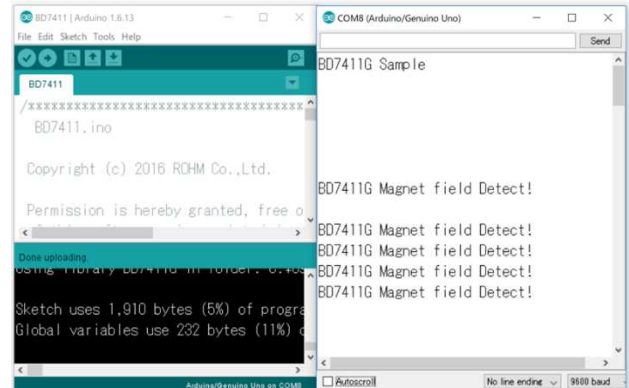

Figure 6. Serial Monitor
7. Check log of Serial Monitor (Figure 6)